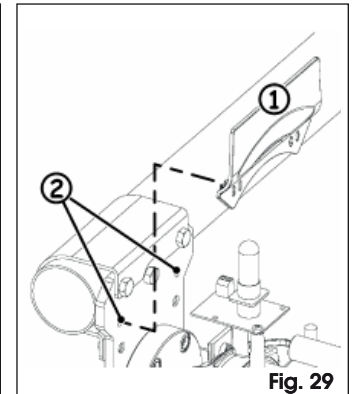

Fig. 29
- Position the rear housing of the rod-bearing plate (Fig. 29 ref. ①), coupling it in the two free holes on the plate (Fig. 29 ref. ②).